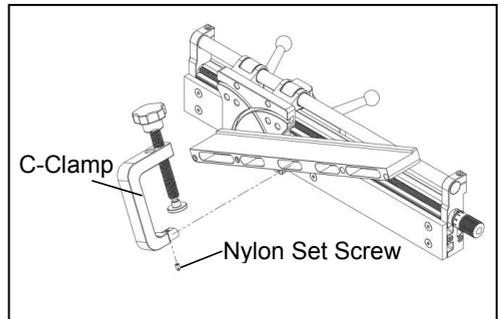

Fig. 13
- As shown in Fig. 13, mount the C-Clamp to the pocket or slots on the Tenon Miter Jig. If needed, you can adjust the nylon set screw to provide better fitment within the pocket or slots.